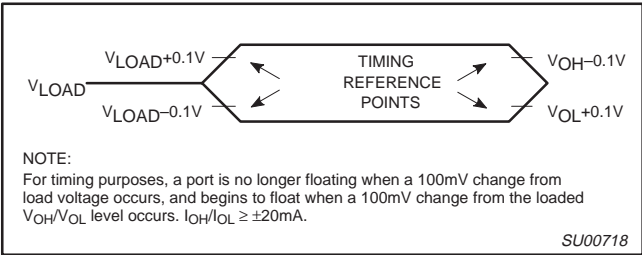

Figure 15. Float Waveform
- See Figures 17 through 20 for I_{CC} test conditions and Figure 15 for limits..